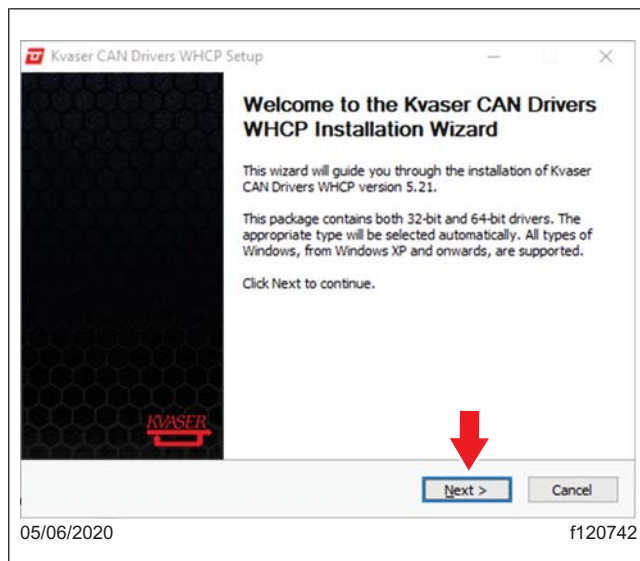

Fig. 9, Kvaser CAN Drivers WHCP Setup Window
12. The Kvaser drivers will now be installed. Select 'Next' in the Kvaser CAN Drivers WHCP Setup window. See Fig. 9.